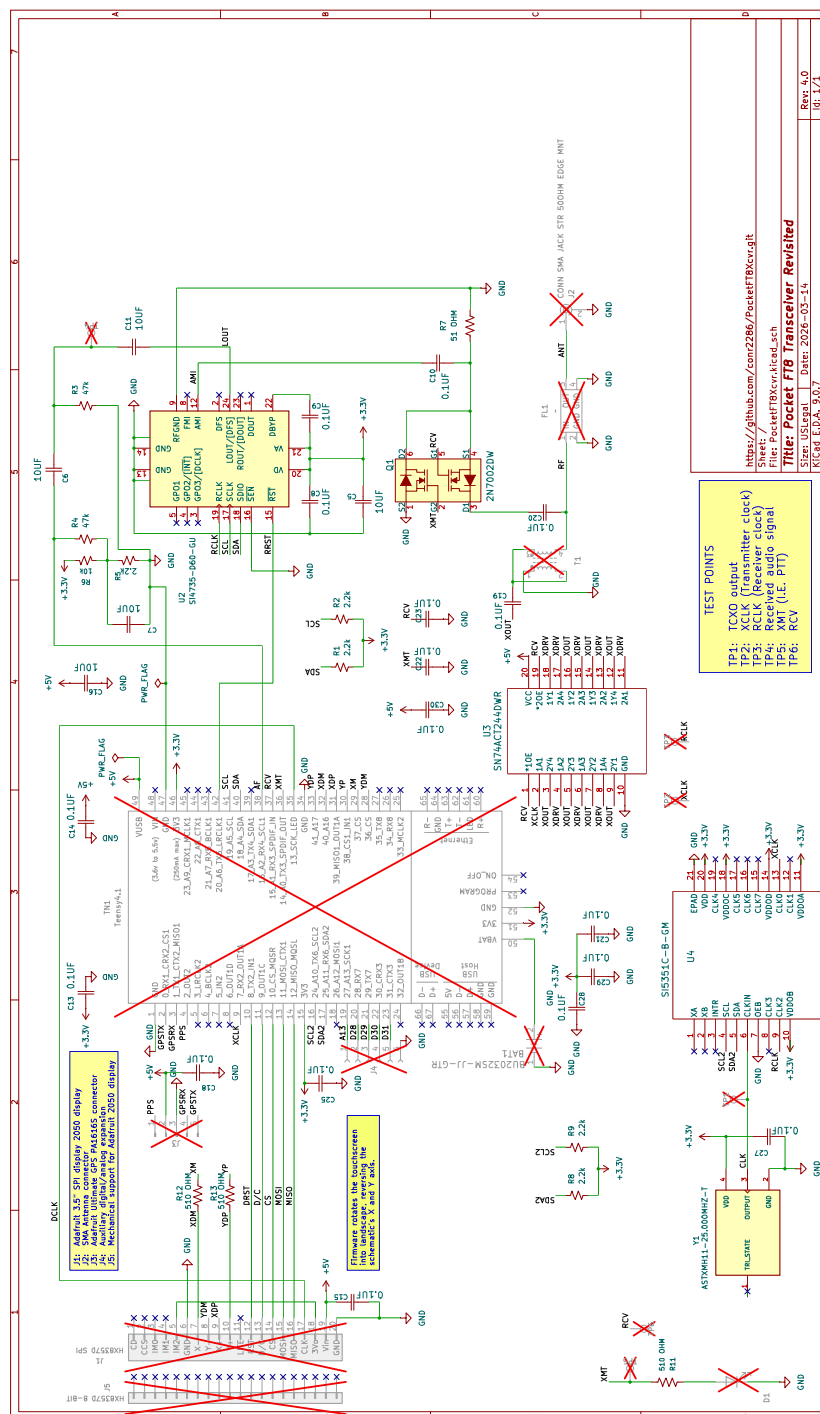
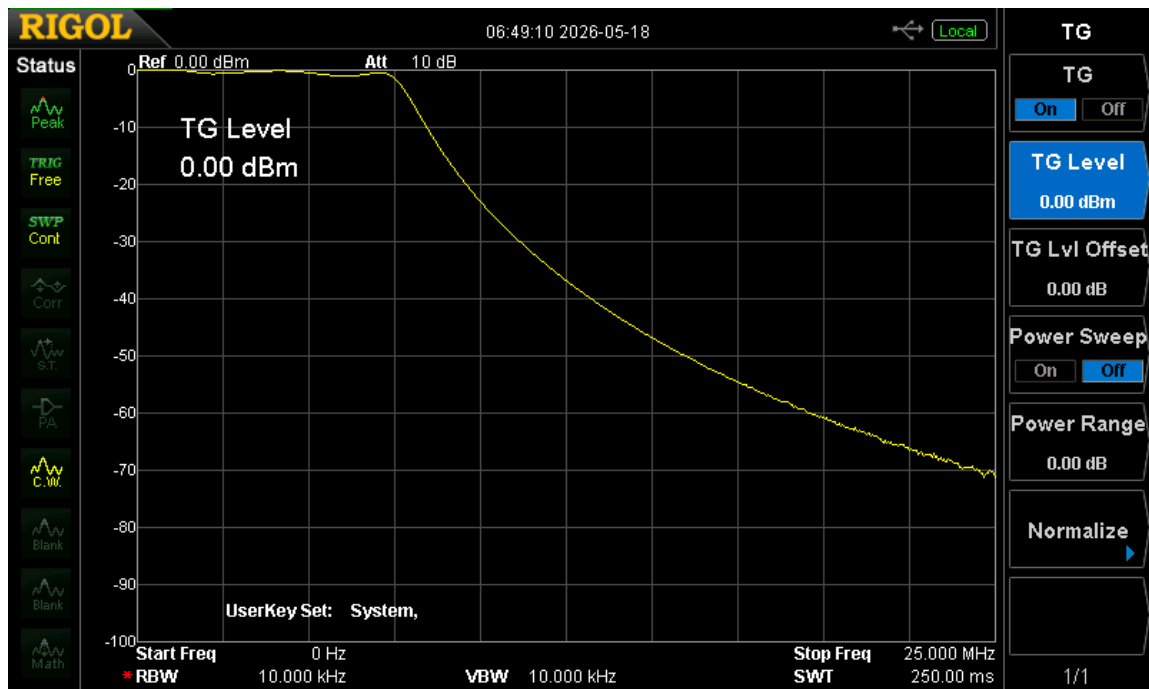
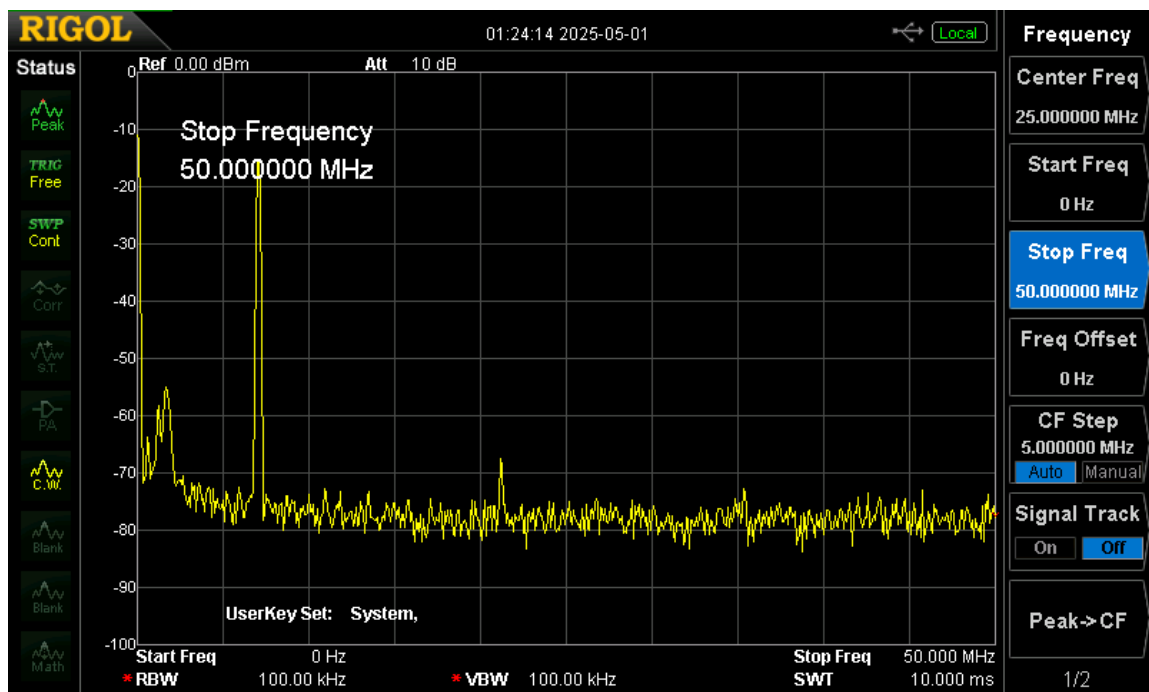

Figure 1: Schematic
Figure 2: Chebyshev Low-Pass Filter Bode Plot
Figure 3: Spectral Purity
FL1 in the Figure 1 removes harmonics from the digital PA. A suitable five-pole Chebyshev design for the 40m band is in the `RFFilters/5Pole40MLPFilter` folder. This filter was designed with Marki’s on-line tool to allow 1 dB of ripple peaking near the 40M FT8 7074 kHz calling frequency, and its performance was simulated with LTSpice. A Bode plot instrumentation of KQ7B’s real-world implementation of 40M FL1 design appears in Figure 2. A spectrum analyzer plot of the transceiver’s output through the 40M FL1 implementation appears in Figure 3. The third harmonic is the most prominent and is suppressed by about 50 dB.
The use of a connected GPS significantly improves the transceiver’s usability and is strongly recommended. The GPS connection is made with a 5-pin ribbon cable to J3 for received data (`GPSRX`), transmitted data (`GPSTX`), Pulse Per Second (`PPS`), power (`+5V`) and ground (`GND`) as illustrated in Figure 1. A GPS fix automatically configures the station’s maidenhead grid square locator as well as the UTC date and time. Lacking the GPS, the radio uses the manually configured locator and restores the current date and time from Teensy’s battery-backed clock. Without the GPS, the station’s timezone is unknown and QSOs may not be logged using UTC time as required by ADIF. Without the GPS, the transceiver’s knowledge of the FT8 15-second time slot boundaries drifts with the battery-backed clock. Because FT8 requires transmissions to begin at accurately
The Pocket FT8 transceiver (Figure 1) is designed around a Teensy 4.1, 600 mHz, 32-bit ARM Cortex-M7 MCU with hardware floating point, USB, SPI, I2C, 1 mB of RAM, and two ADCs.
When transmitting, the MCU reprograms the Si5351 clock generator’s output for each of the eight FT8 Frequency Shift Keying (FSK) tones, a direct FSK scheme, unlike the Audio FSK (AFSK) widely used with a SSB transmitters’ microphone jack. Frequency stability is achieved by locking the Si5351 to a low jitter Temperature Controlled Crystal Oscillator (TCXO) reference. The Si5351’s output is buffered by one element of a SN74ACT244 octal bus driver whose remaining seven buffers function in parallel as the transmitter’s QRPP power amplifier (PA). A five-pole Chebyshev low-pass filter with 1 dB of ripple (Figure 2) peaking near the expected operating frequency provides harmonic rejection. The PA delivers 275 mW through the filter.